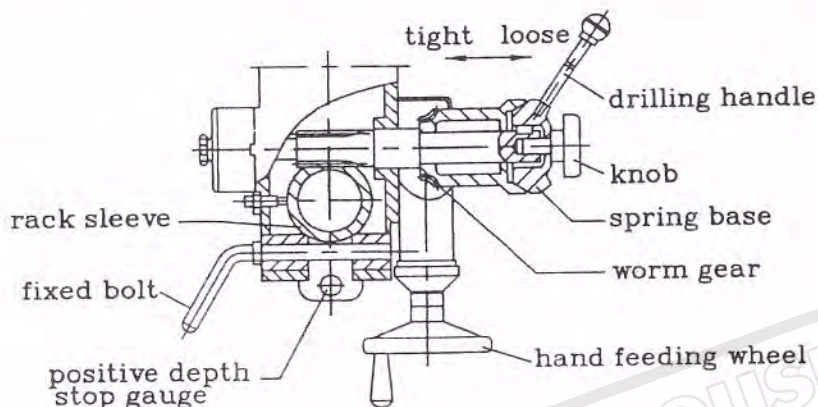

Fig.5
4) Preparing for drilling (see Fig.5).
5) Preparing for milling (see Fig.5).